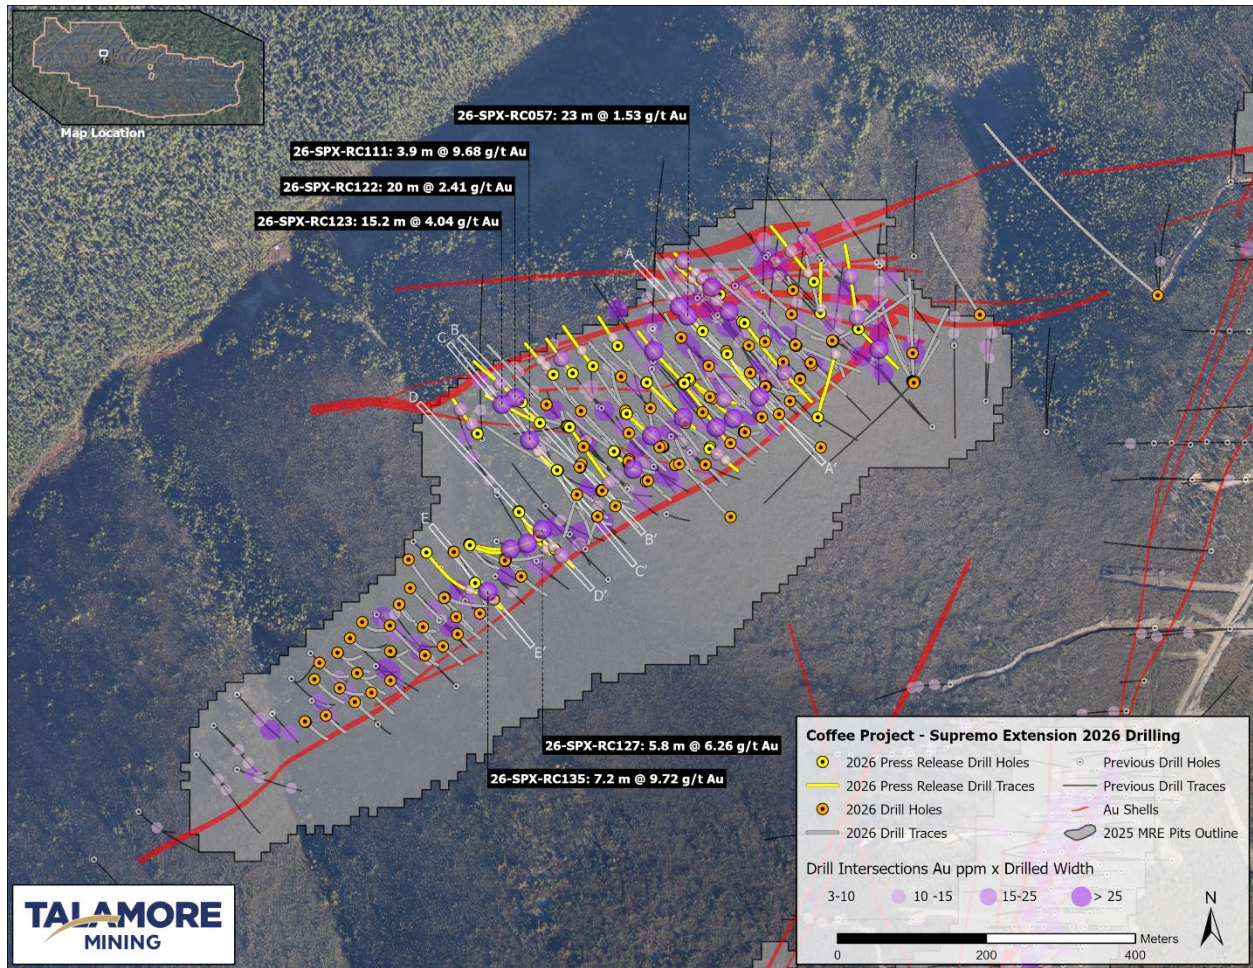

Figure 2. Location of drill holes and cross-sections from the current release, Supremo Extension.
- Hole **26-SPX-RC135** (Figures 2 & 3) encountered much better than expected grade on the steeply dipping structure in Supremo Extension. This hole is the most southwestern hole reported from the 2026 program and will likely add mineralization within the current resource pit, with mineralization remaining open at depth. Assays are pending on three drill holes on this section, which should add continuity to the main mineralized structures and define the bottom of the pit.
- Holes **26-SPX-RC111 and 26-SPX-RC123** (Figure 2 & 4) expand higher grade zones on the shallow dipping structure, both at depth and closer to the surface. These drill holes confirm the resource model interpretation and should increase the grade and ounces on this section and within the current resource pit.
- Hole **26-SPX-RC127** (Figures 2 & 5) helps to confirm the current resource model interpretation and shows good grade at the base of the pit, which may support an expansion of the pit at depth.
- Hole **26-SPX-RC122** (Figures 2 & 6) is a shallow hole that confirms near-surface grade and width on the shallow dipping vein. Assays are pending on one drill hole deeper on this section to confirm the model near the base of the pit. These drill results in the low angle structure should increase the block grades and gold ounces in this part of the vein structure.
- Hole **26-SPX-RC057** (Figures 2 & 7) is another shallow hole that adds better grade and width to the shallow-dipping vein, likely increasing the block grade in this part of the structure.